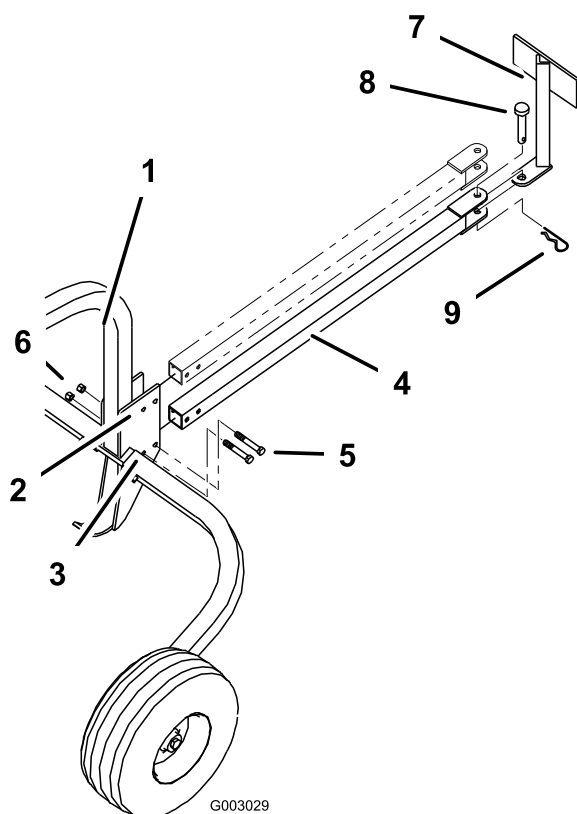

Figure 5
2. Position the tow hitch bar with the square end connecting to the walking boom main frame assembly (Figure 5) using two bolts (3/8 x 2 inches) and two lock nuts (3/8 inch).
3. Align the trailer tow hitch bar tabs with the universal tow hitch tongue between them (Figure 5).
4. Insert the hitch pin through the tabs and tow hitch tongue and secure it with a hair pin (Figure 5).